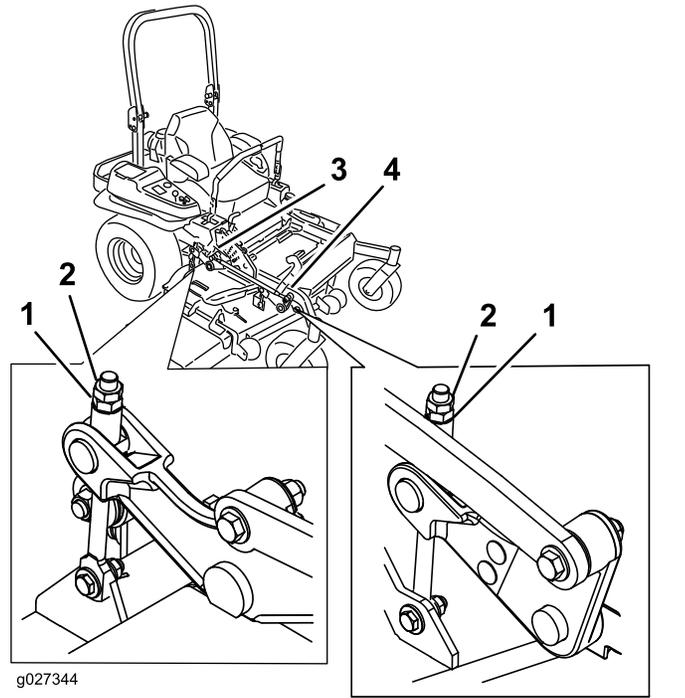

Figure 108
- Fine-tune the adjustment nut on the front deck-lift assembly by turning it (Figure 108).
- 16. Fine tune the screw adjuster by turning it to get 8.3 mm (3-1/4 inches) height (Figure 108).